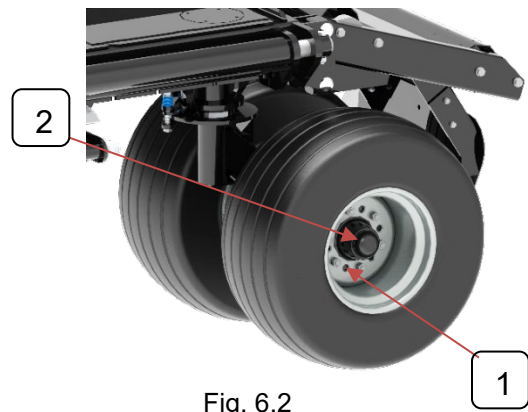

Fig. 6.2
Check wheel lug nut tightness (#1 Figure 6.2) after the first two (2) hours of operation, again after the first ten (10) hours, then periodically.
Remove, clean and re-pack wheel bearings (#2 Figure 6.2) every 1000 hours or annually.